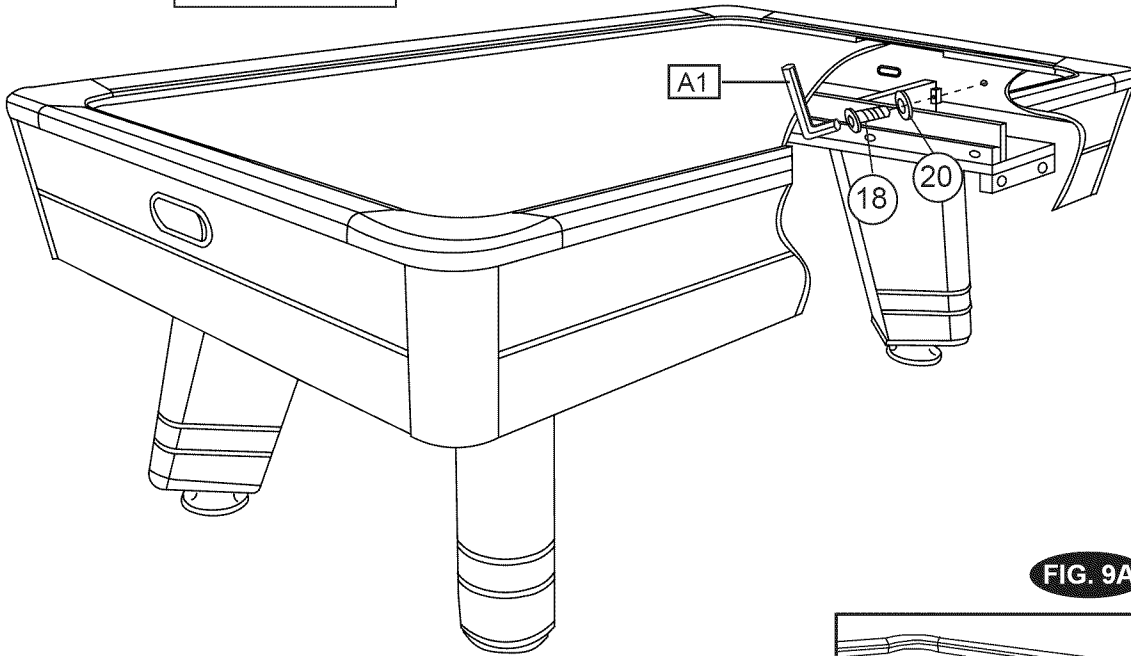

FIG. 9B
- **NOTE:** While attaching the Leg Support to the Cabinet, it is important to gently lift up on the End Aprons to eliminate any gap between the Aprons and the Cabinet. See Fig. 9B.